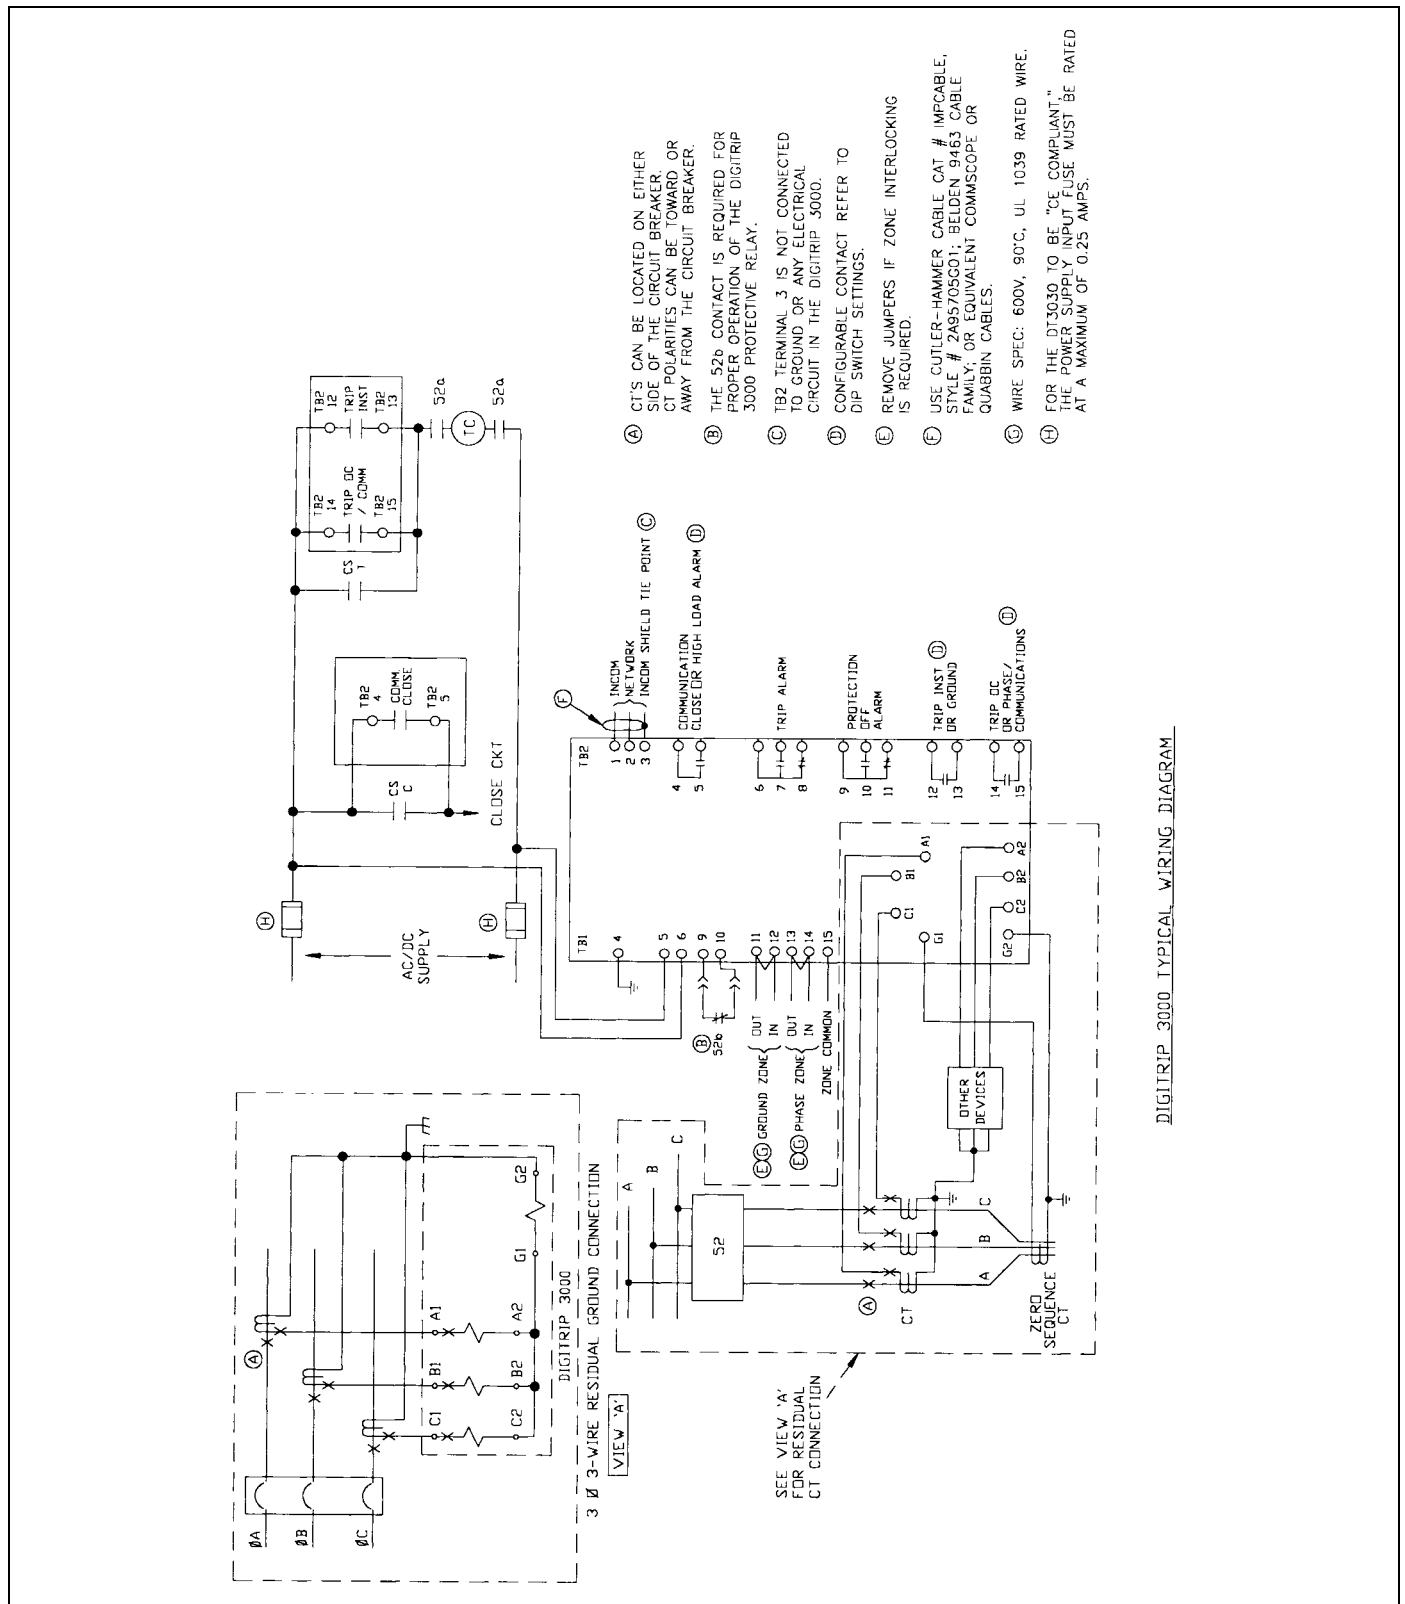

Fig. 3-1 Digitrip 3000 Typical Wiring Diagram
The Digitrip 3000 Protective Relay requires that a customer supplied source of input control power be wired into the TB1 terminal block located on the rear panel. Refer to the typical wiring diagram in Figure 3-1. A power supply can be either AC or DC voltage within the acceptable voltage ranges outlined in Paragraph 2-3 entitled "UL Testing and Specification Summary."
This section specifically describes the operation and functional use of the Digitrip 3000 Protective Relay. It does not address in detail rear power connections and DIP switch settings. These topics are covered in SECTION 5 entitled "INSTALLATION, STARTUP AND TESTING." It would be helpful, however, to become familiar with the relay's wiring diagram before proceeding with the rest of this section (Figure 3-1).
As shown in Figure 3-1, the ANSI and IEC "Curve Shapes" are in terms of multiples of (Pickup Current of the CT Primary), whereas "short delay" and "instantaneous" are in terms of multiples of I_n (5A secondary of CT primary current). The thermal curve is represented in terms of multiples of I_n for its curve shape, short delay, and instantaneous settings. This must be considered in the Coordination study and in the programming of the Digitrip 3000 Protective Relay.
Inverse time overcurrent protection consists of a curve shape pickup setting and an inverse time multiplier setting. The inverse time overcurrent function offers eleven possible curve shape types as previously described (Figure 3-1 and Table 3.1.). When programming the relay, this will be the first choice to make. The curve shape and its effect on the characteristic curve will be covered with the time multiplier explanations.
1. The Program Mode can be entered with the circuit breaker open or closed, depending on how DIP switch S2 is set. Refer to Table 5.1 for DIP switch settings. The circuit breaker position is determined via the normally closed breaker "b" contact on terminals 9 and 10 of TB1. Refer to the typical wiring diagram in Figure 3-1.
The Digitrip 3000 Protective Relay has a built in INCOM communication network port that is available on terminals 1 and 2 of TB2 (Figure 3-1). The device Address and the desired BAUD Rate are programmed using the following pushbuttons located on the front panel: "Select Tests," "Test," "Raise" and "Lower" and "Select Settings."